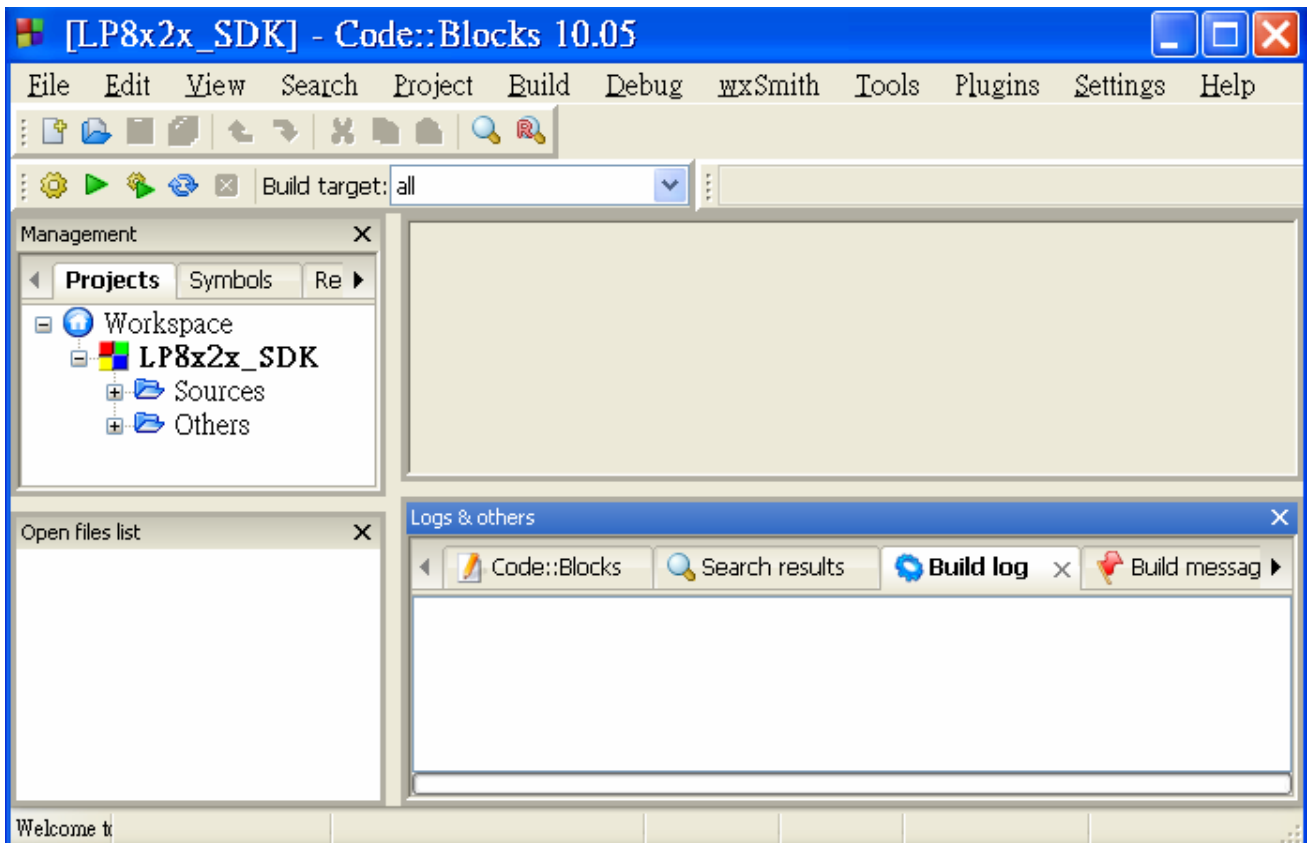

Fig. 2-20
- ❑ Following window will come up (refer to Fig. 2-20):